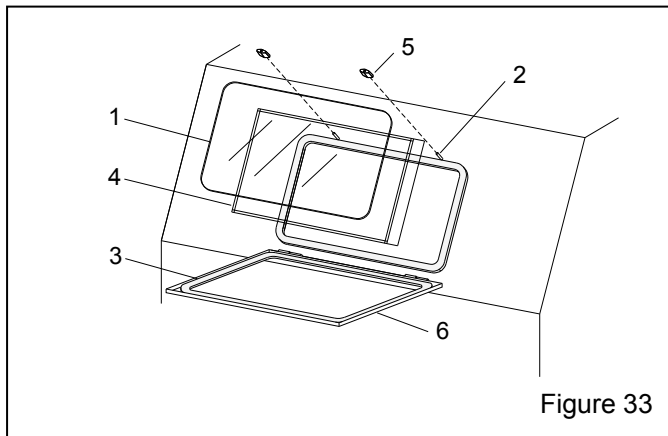

Figure 33
9.3 View Window Assembly, Figure 33